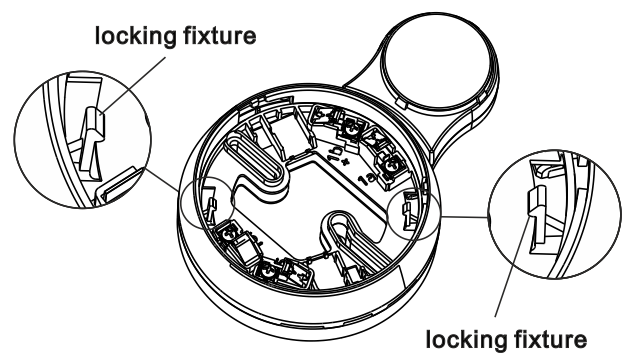

Fig. 4
2. Push the standard base into the sounder base until the two locking fixtures secure it firmly in place (Fig. 4).